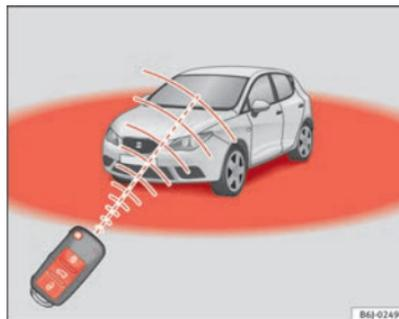

Fig. 47 Range of the remote control
Also, the battery indicator on the key  fig. 47, will flash.
- The remote control key functions only when you are within range → fig. 47.